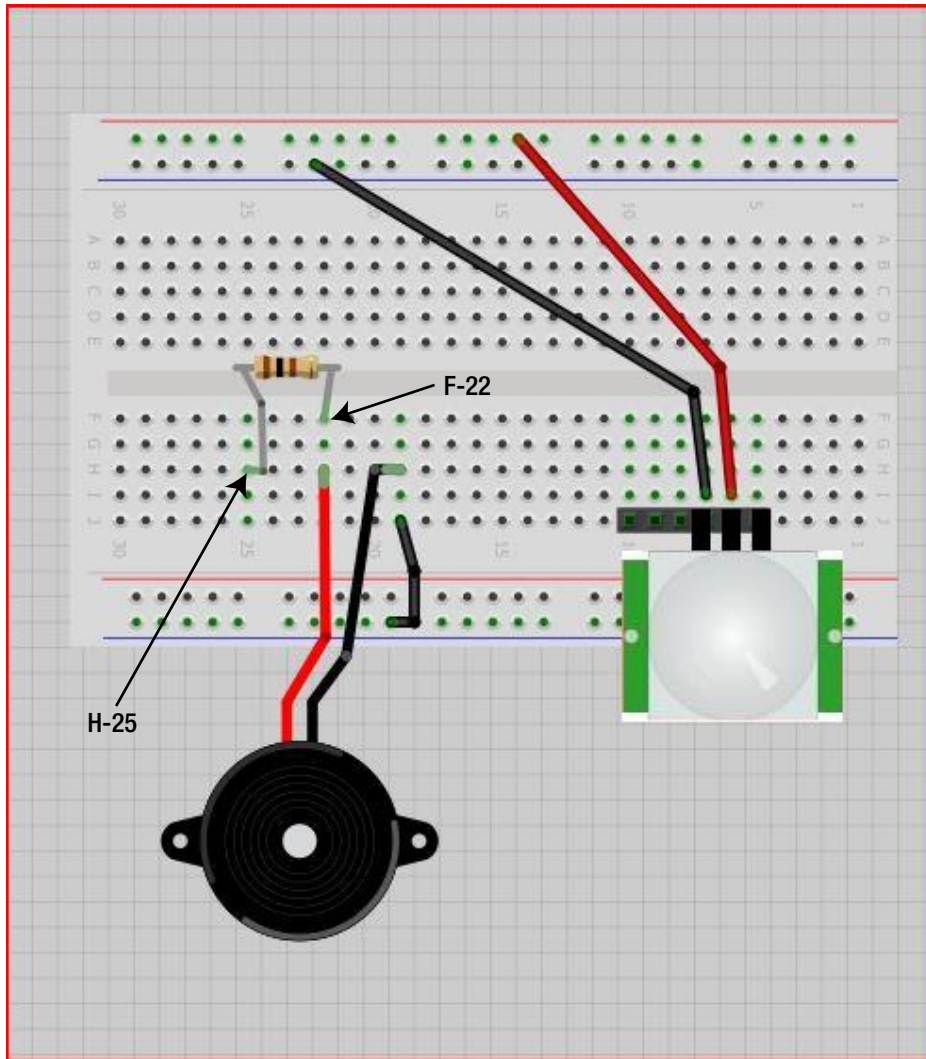

Figure 19-9. Attach the 100-ohm resistor to the positive side of the buzzer
8. You don't want to connect a buzzer directly to 5V, so we're going to add a resistor in there to protect the component from receiving too much voltage. Insert one end of a 100-ohm resistor to the positive lead of the buzzer at F-22 and insert the other end of the resistor into H-25. Figure 19-9 illustrates this process.